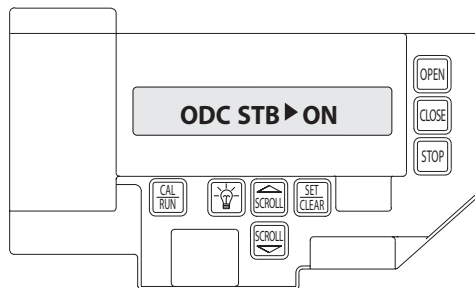

Figure 16
- 2) Press SCROLL  (up or down) until display reads "ODC STB>ON" or "ODC STB>OFF" **Figure 16.**